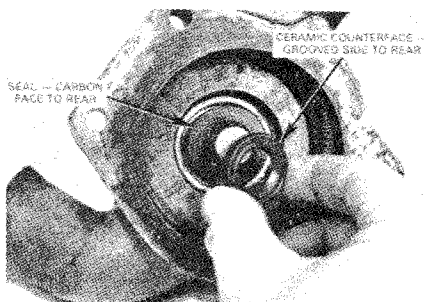

Fig. 83—Install front part of seal with carbon face toward rear. The ceramic counterface should be installed with grooved side toward rear.
To reassemble, press shaft and bearing assembly into housing until front face of bearing is flush with front of housing. Be sure shorter end of shaft is towards front of housing. Install slinger (3) with flange towards bearing assembly. Install front part of seal with carbon face of seal facing rearward as shown in Fig. 83. Install ceramic faced seal with grooved side towards the impeller. Support front end of shaft, then press impeller onto shaft until clearance between front of impeller blades and pump housing is 0.25-0.50